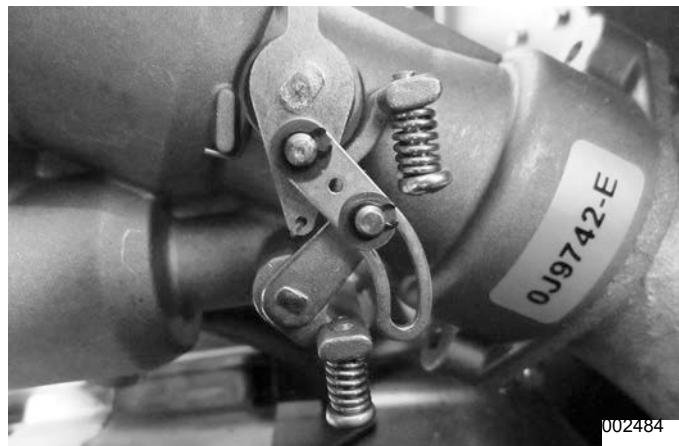

Figure 3-57. Stepper Motor Starting Position and/or Mid-point
- a. The stepper motor should sweep the mixer linkage (and throttle plates) to a full open position (opening both venturis), back to a closed position and then to the starting position (a slight opening of the throttle in the small venturi). See Figure 3-57, Figure 3-58, Figure 3-59, and Figure 3-60.